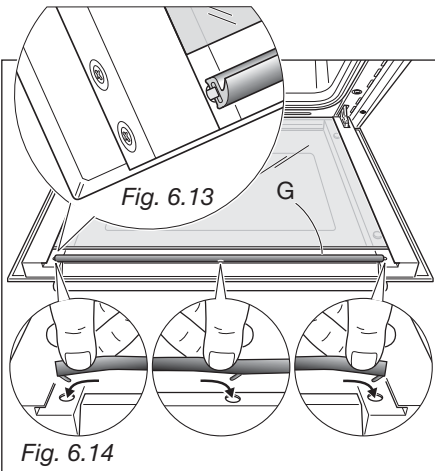

Fig. 6.14
- Reassemble the seal "G" in the correct way (fig. 6.13) by hooking the no. 3 (three) fixing hooks in the proper holes (fig. 6.14).